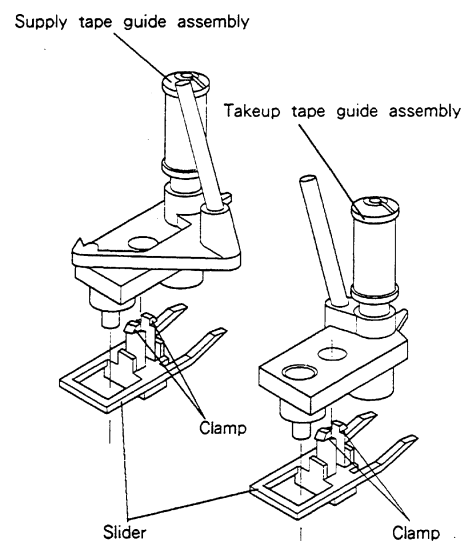

Fig. 2-17-4
- I. Unfasten the clamp of the slider which secures the supply or takeup tape guide assembly, and remove the tape guide assembly and the slider from the main plate. (Refer to Fig. 2-17-4.)